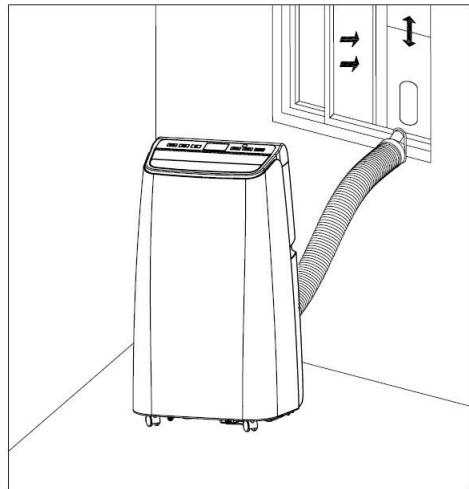

Figure 5
- Elongate the exhaust pipe and snap the flat end of it into the elliptical hole of the window sealing plate (as shown in Figure 5 and 6).